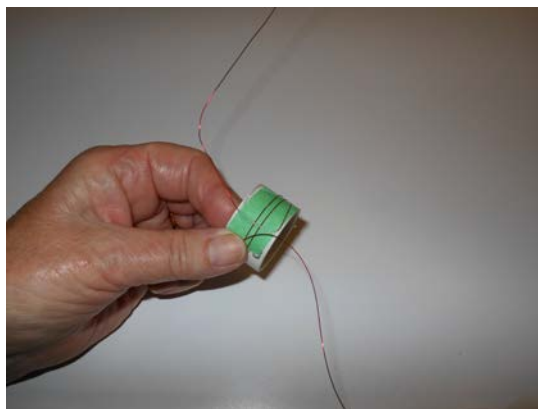

Fig. 9
demonstrator transformer – see Fig 9. Two such lengths are required for each transformer. The total number cut will depend on the size of the class.
5. Divide the class into teams of four or 5 as convenient. From each team give two students two of the pieces of pipe and tell them to wind two coils – one to hold the spool reasonably firmly, and the other to wind the wire onto the pieces of pipe. See Fig. 9.